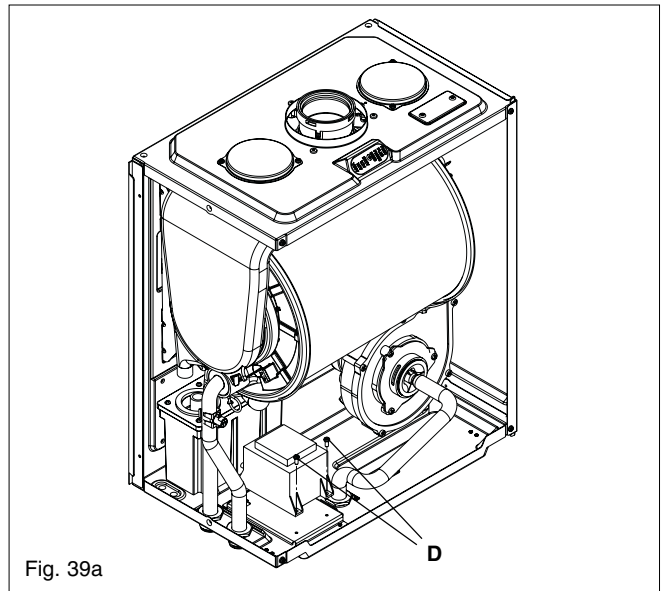

Fig. 39a
6.25 FAN TRANSFORMER REMOVAL (fig. 39a)